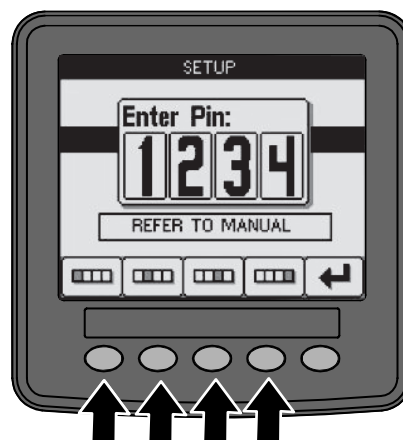

Figure 16
2. Press buttons as shown in Figure 16 to enter your PIN code.